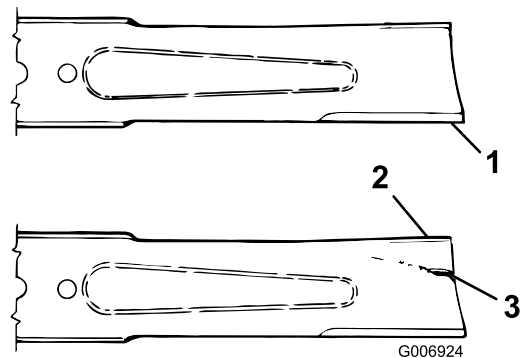

Figure 96
3. Examine the cutting ends of the blade carefully, especially where the flat and curved parts of the blade meet (Figure 96).
4. If wear is noticed (Figure 96), replace the blade; refer to Removing and Installing a Blade (page 67).